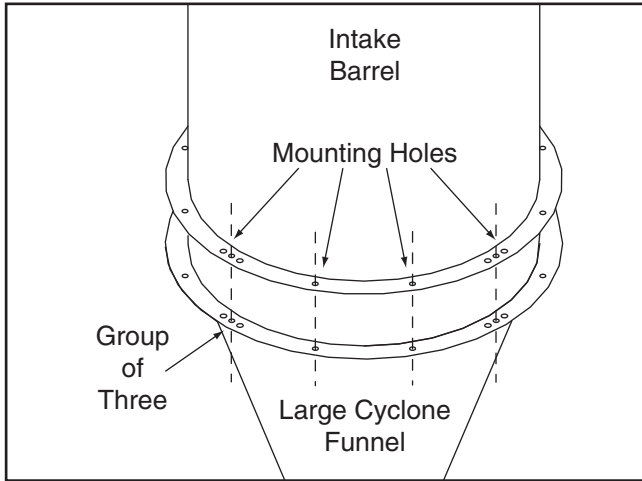

Figure 17. Intake barrel and large cyclone funnel mounting holes aligned.
4. With assistance, place the intake barrel over the large cyclone funnel and align the mounting holes as illustrated in **Figure 17**.
6. Install the four cyclone mounting brackets with (8) $\frac{3}{8}$ "-16 x $1\frac{1}{4}$ " hex bolts, (16) $\frac{3}{8}$ " flat washers, and (8) $\frac{3}{8}$ "-16 lock nuts (see **Figures 17 & 19**).